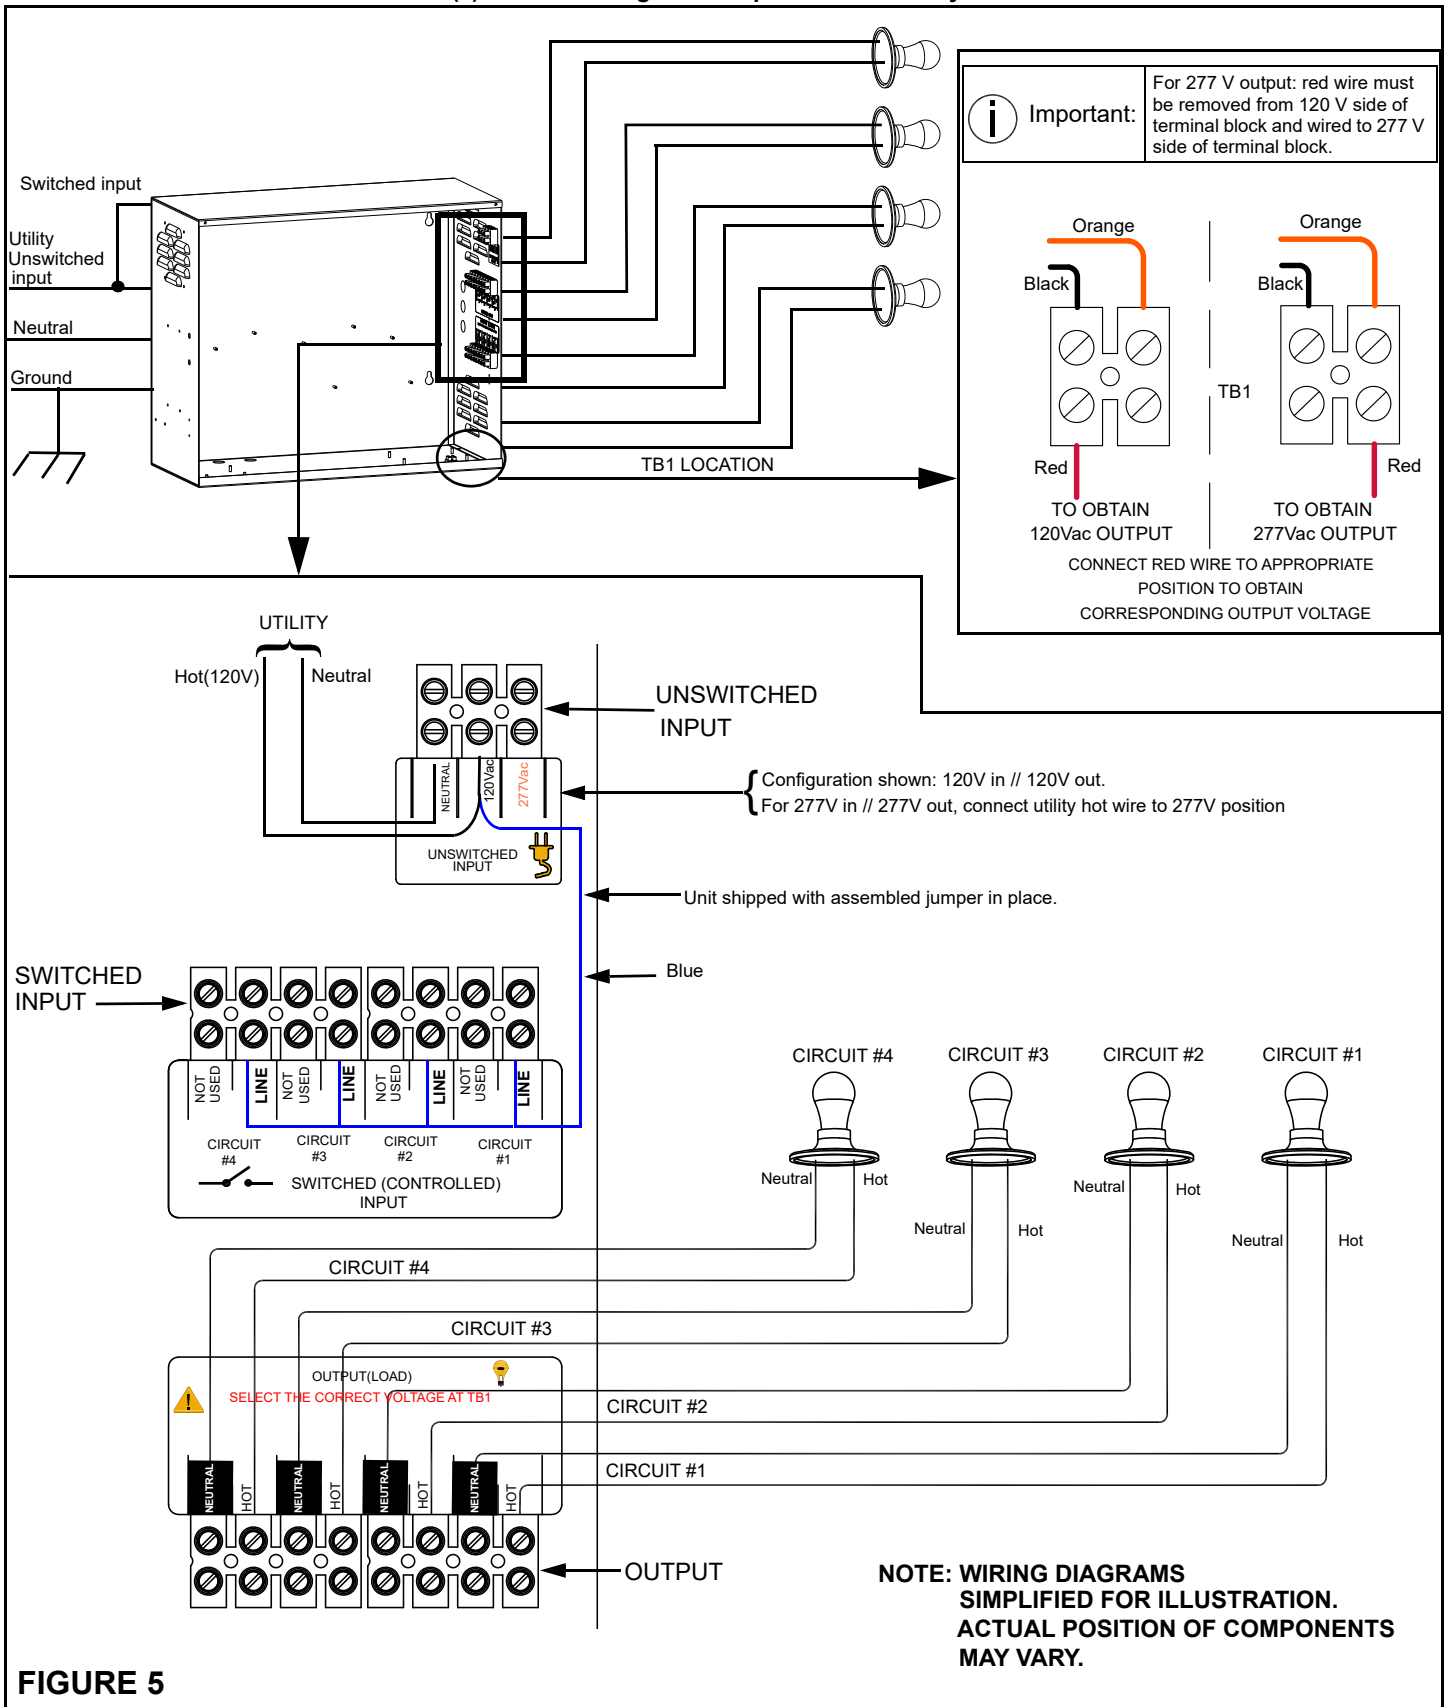

FIGURE 5
- Identify the terminal block for UNSWITCHED INPUT (figures 5, 6, 7 or 8).
- Normally-On Operation** (Refer to Figure 5 for wiring details) - Fixtures remain illuminated in normal AC and emergency modes.
Refer to the applicable wiring diagram in figures 5, 6, 7 and 8 to connect the utility AC power and external control devices (where applicable). Perform all wiring procedures in accordance with applicable codes. The unit is shipped configured to operate in Normally-On mode by using an assembled jumper. This jumper can be removed to configure the SWITCHED INPUTS as desired.
- c. Identify output terminal block (refer to figures 5, 6, 7 and 8).